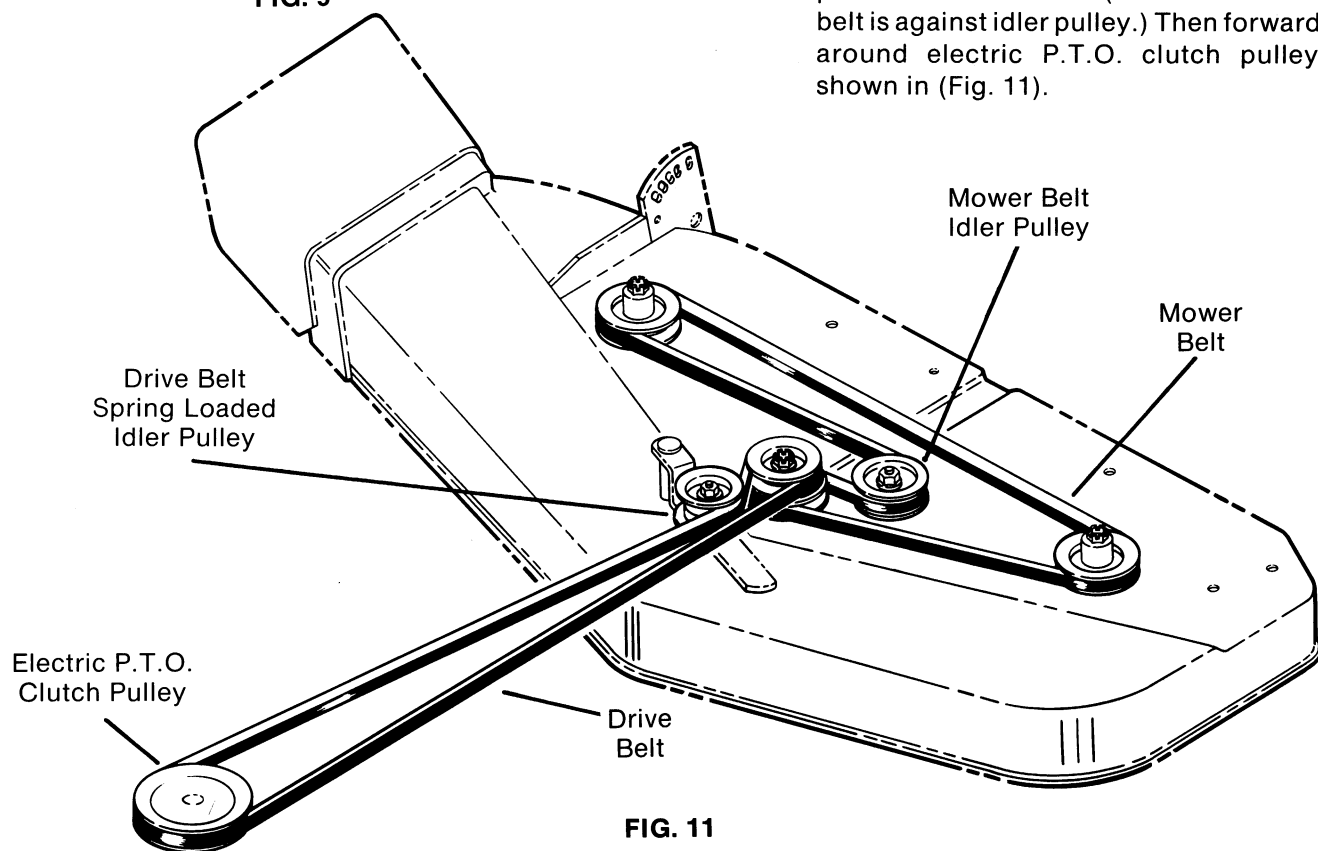

FIG. 11
- L. Pull spring loaded idler pulley to the right and place belt inside idler (be sure wide side of belt is against idler pulley.) Then forward and around electric P.T.O. clutch pulley, as shown in (Fig. 11).
- B. Remove mower drive belt from electric P.T.O. clutch pulley (Fig. 11) by moving spring loaded idler pulley to the right to relieve tension on the belt.